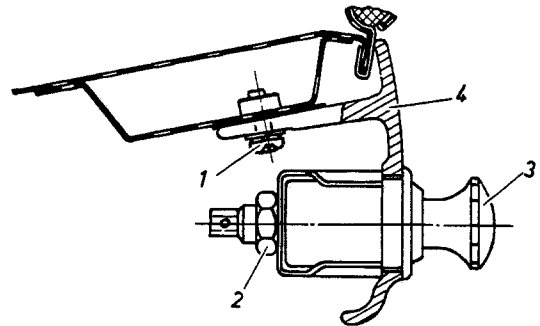

Fig. L 8/2
6. Unscrew from below the three screws (1) of the attaching plate (4) for the control knobs and pull the attaching plate (4) slightly toward the steering wheel (Fig. L 8/2).